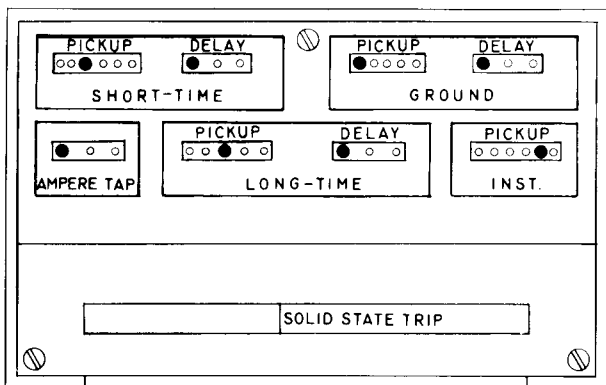

Fig. 12 — Solid State Overcurrent Trip Device Type SS-5G Shown
1. Turn adjusting screw (1) out as far as possible so that the circuit breaker will not trip when the magnetic latch trips.
2. Remove the terminal block cover on the solid state assembly by removing two lower screws (Fig. 12). Disconnect two wires at terminals 15 and 16.
4. While lightly pushing at point "A" so that the lever (2) does not move through its full stroke and trip the circuit breaker, momentarily apply the voltage (3 V) from two dry cell batteries, size "D", to the two wires (+ to wire 16, - to wire 15) that were disconnected in operation 2. The magnetic latch should trip.
5. Gradually release the hold on lever (2).
6. While holding the lever (2) in the tripped position, turn in on screw (1) until the circuit breaker just trips, then turn in one additional turn.
SOLID STATE OVERCURRENT TRIP DEVICE SETTINGS (See Figure 12)